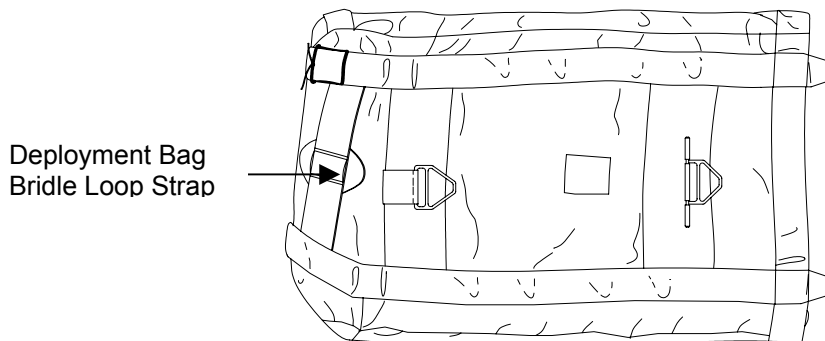

Figure 1. Deployment Bag Modification.
- a. Remove the deployment bag bridle loop from the deployment bag and sear ends (figure 1).